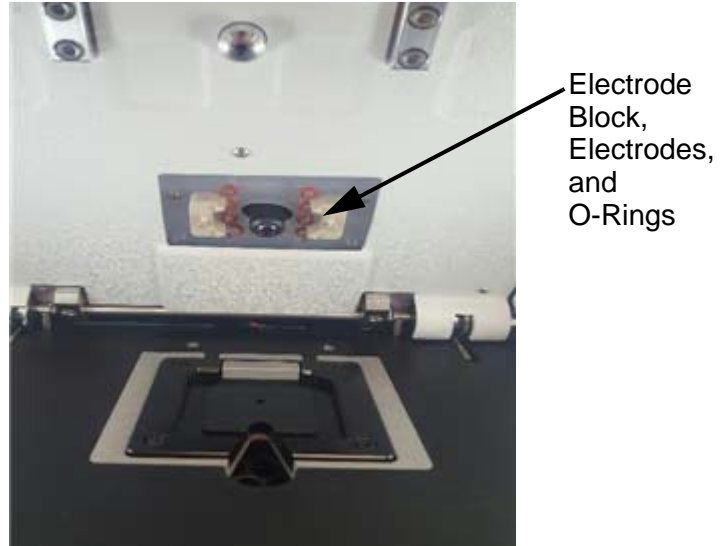

Figure 8. Chip Loading Area
- 4 Clean the electrodes (shown in Figure 8) using the provided lint-free swabs dampened with DI water. Do not leave any visible droplets of water on the electrodes.